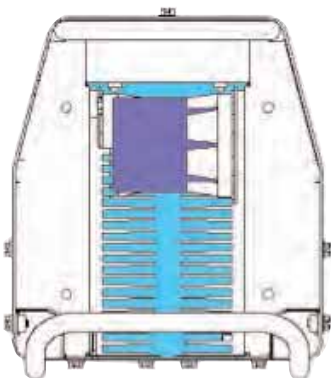

Figure 4
2. Remove the four screws securing the rear louver panel, and remove the panel to expose the cooling tunnel heatsinks. (See Figure 4 below):